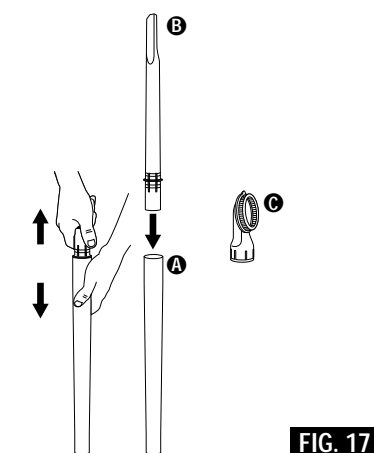

FIG. 17
**Nested Extension Wand (A)** to add reach. Grasp both wands near ridges. Pull apart. Turn ridge end to center. Push wands together (FIG. 17).
**Crevice Tool (B)** cleans corners, baseboards, between cushions.
**Dusting/Upholstery Brush (C)** is for furniture, blinds, books, lampshades, shelves, curtains, draperies, cushions and fabrics.
Use la **Vara de Extensión Anidada (A)** para un mayor alcance. Sostenga ambas varas cerca de los surcos. Separe ambas piezas. Gire el extremo surcado hacia el centro. Oprima ambas varas juntas. (FIG. 17)